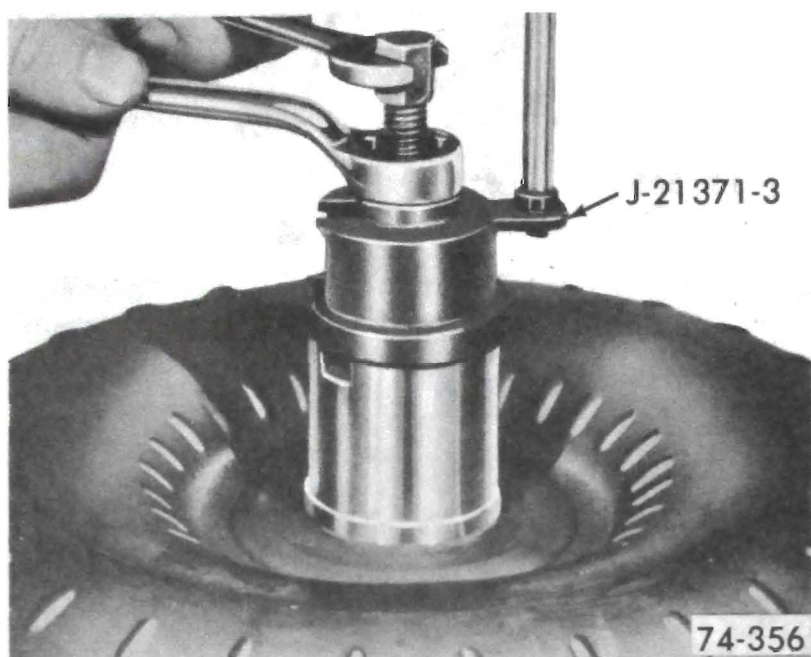

Figure 76-239
- b. Install Tool J-21371-3 and tighten hex nut. See Figure 76-239.